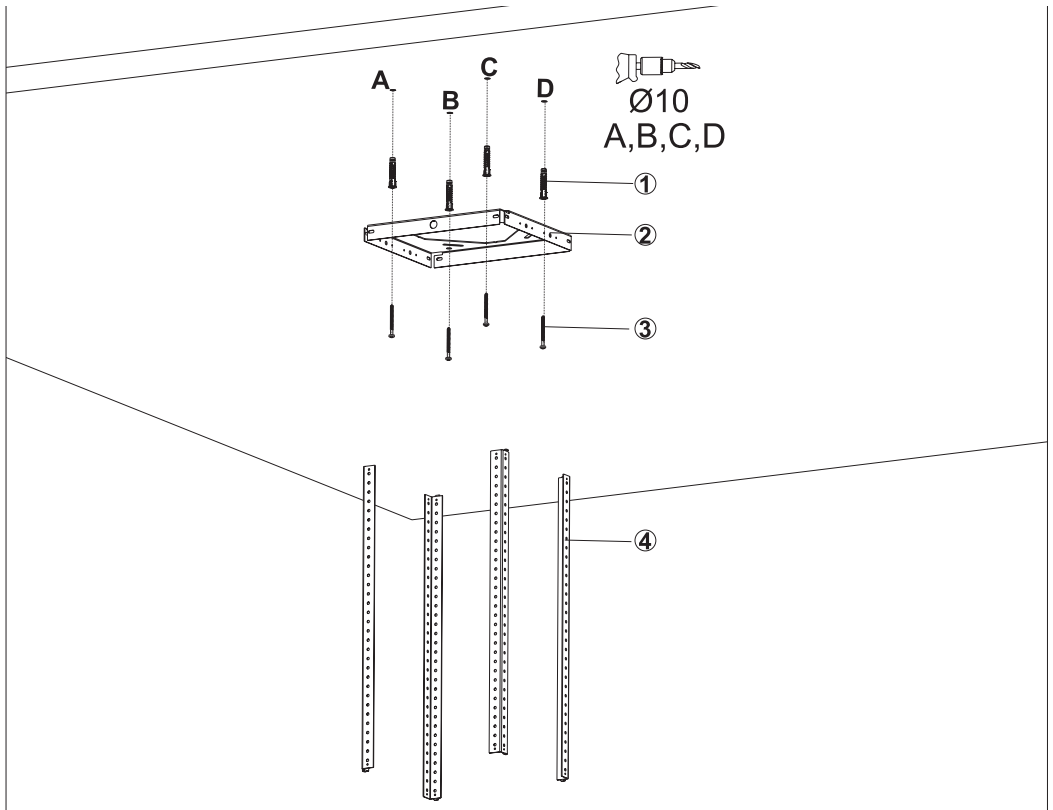

Figure 9: INSTALLATION AND PARTS SECTION 1
- Drill the surface where the product will be installed from points A, B, C, D with Ø10 mm drill bit. Figure 9
- Insert Ø10 mm plastic pins (1) into the A, B, C, D holes you have drilled. Figure 9
- Mount the ceiling connection sheet from points A, B, C, D to the ceiling with 5.5x60 screws (3). Figure 9